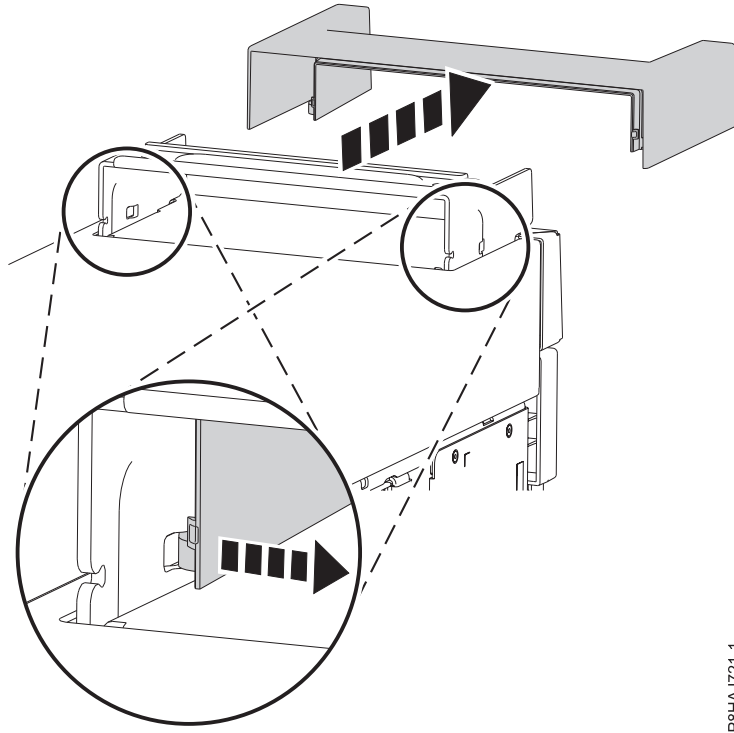

Figure 17. Removing the handle cover from an 8286-41A stand-alone system
3. Remove the handle cover by sliding it toward the front of the system then lifting upwards. See Figure 17 on page 37.